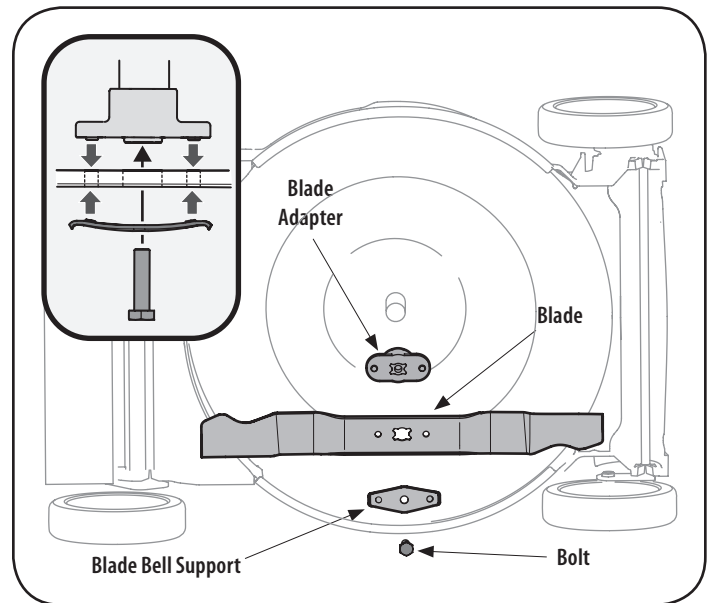

Figure 17
3. Remove the bolt and the blade bell support which hold the blade and the blade adapter to the engine crankshaft. See Figure 17.
6. Lubricate the engine crankshaft and the inner surface of the blade adapter with light oil. Slide the blade adapter onto the engine crankshaft. Place the blade on the adapter such that the side of the blade marked "Grass Side" (or with part number) faces the ground when the mower is in the operating position. Make sure that the blade is aligned and seated on the blade adapter flanges. See Figure 17 inset.